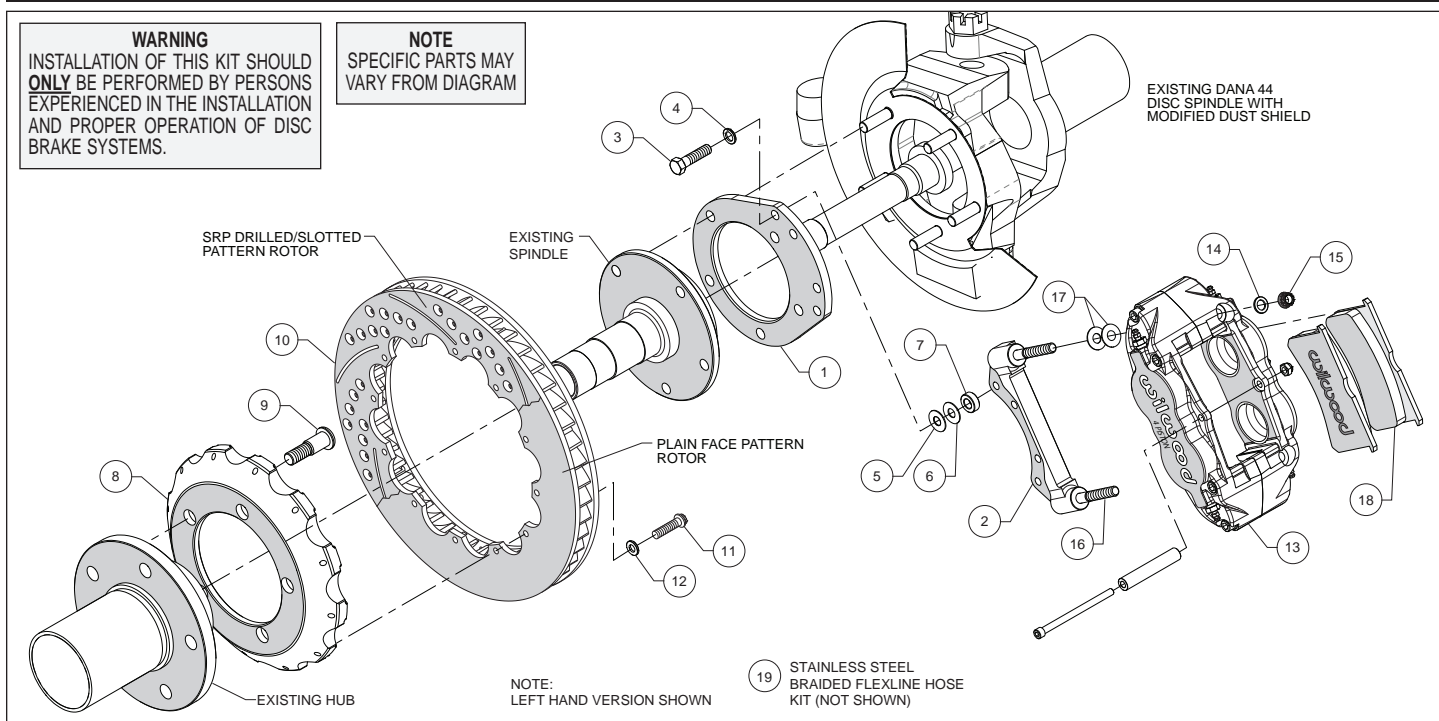
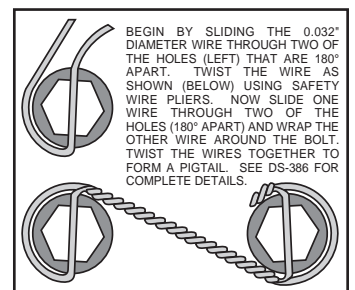

Figure 1. Typical Installation Configuration
Figure 4. Safety Wire Diagram
Assembly Instructions (numbers in parenthesis refer to the parts list and Figure 1 on the preceding pages):
- Orient the flat mount bracket (1) as shown in Figure 1 and Photo 1. Install the OEM spindle over the bracket and secure with OEM nuts, Photo 2. Temporarily tighten the mounting nuts. **NOTE:** *The bracket must fit squarely against the mount bosses on the upright.* Inspect for interference from casting irregularities, machining ridges, burrs, etc. Remove nuts one at a time, apply red *Loctite*[®] 271 to the bolt threads and torque nuts to OEM specification.
- The caliper mount bracket (2) should initially be installed with clean, dry threads on the mounting bolts. Orient the bracket as shown in Figure 1 and Photo 3, and install using mount bolts (3) and washers (4). Initially place one .035" thick shim (5) and spacer (7) on each bolt between the flat and caliper brackets, Figure 1. Temporarily tighten the mounting bolts. Later, after the caliper alignment has been checked, the mount bolts will be secured using red *Loctite*[®] 271.
- Orient the hat (8) and the OEM hub as shown in Figure 1 and Photo 4. **NOTE:** *The hat must fit flush against the hub or excessive rotor run out may result.* Press fit the wheel studs (9) thru the holes in the hat and into the existing hub. **NOTE:** *We recommend this procedure be performed by a qualified machinist.*
- Orient the rotor (10) and the hat/hub assembly as shown in Figure 1 and Photo 5. Attach rotor to hat using bolts (11) and washers (12). Using an alternating sequence, apply red *Loctite*[®] 271 to the threads, and torque to 155 **in-lbs**. For an added measure of security, the bolts may be safety wired using standard 0.032 inch diameter stainless steel safety wire as shown in Figure 4. Please refer to Wilwood's data sheet DS-386 (available at www.wilwood.com/Pdf/DataSheets/ds386.pdf) for complete safety wire installation instructions.
- Lubricate the caliper mounting studs (16) with lightweight oil. Initially place two .035" thick shims (17) on each stud as shown in Figure 1 and Photo 6. Mount the caliper (13) onto the bracket (2) using lock nuts (15) and washers (14), Figure 1. Temporarily tighten the lock nuts and view the rotor through the top opening of the caliper. The rotor should be centered in the caliper, Photo 7. If not, adjust by adding or subtracting shims (5 and/or 6) between the spindle bracket and caliper bracket. Always use the same amount of shims on each of the four mounting bolts. Once the caliper alignment is correct, remove the bracket to bracket mounting bolts (3) one at a time, apply red *Loctite*® 271 to the threads, and torque to 35 ft-lb.